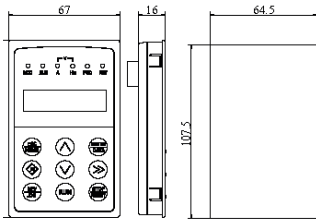

Fig.2-6 Mounting size of keypad
01. TDS-LCD2 long-distance keypad outer lead, do not support keypad holder installed, only keypad installed support, mounting size refer to Fig.2-6.